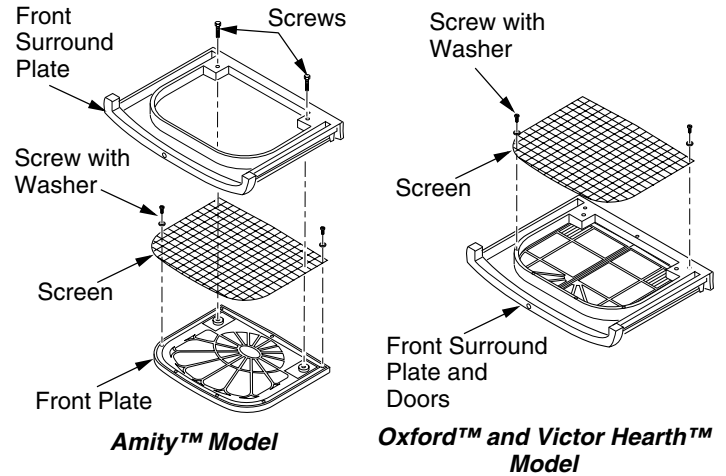

Figure 14 - Removing Screen from Front Assembly
1. Lay the front panel assembly face down on a protected surface. Remove the two screws that hold the front plate onto the front surround plate (see Figure 14). Save these screws.
2. Remove the screws and washers that hold the screen onto the front surround plate. Discard these screws, washers, and screen (see Figure 14).
1. Lay the front panel assembly face down on a protected surface. Remove the screws and washers that hold the screen onto the front surround plate. Discard these screws, washers, and screen (see Figure 14).